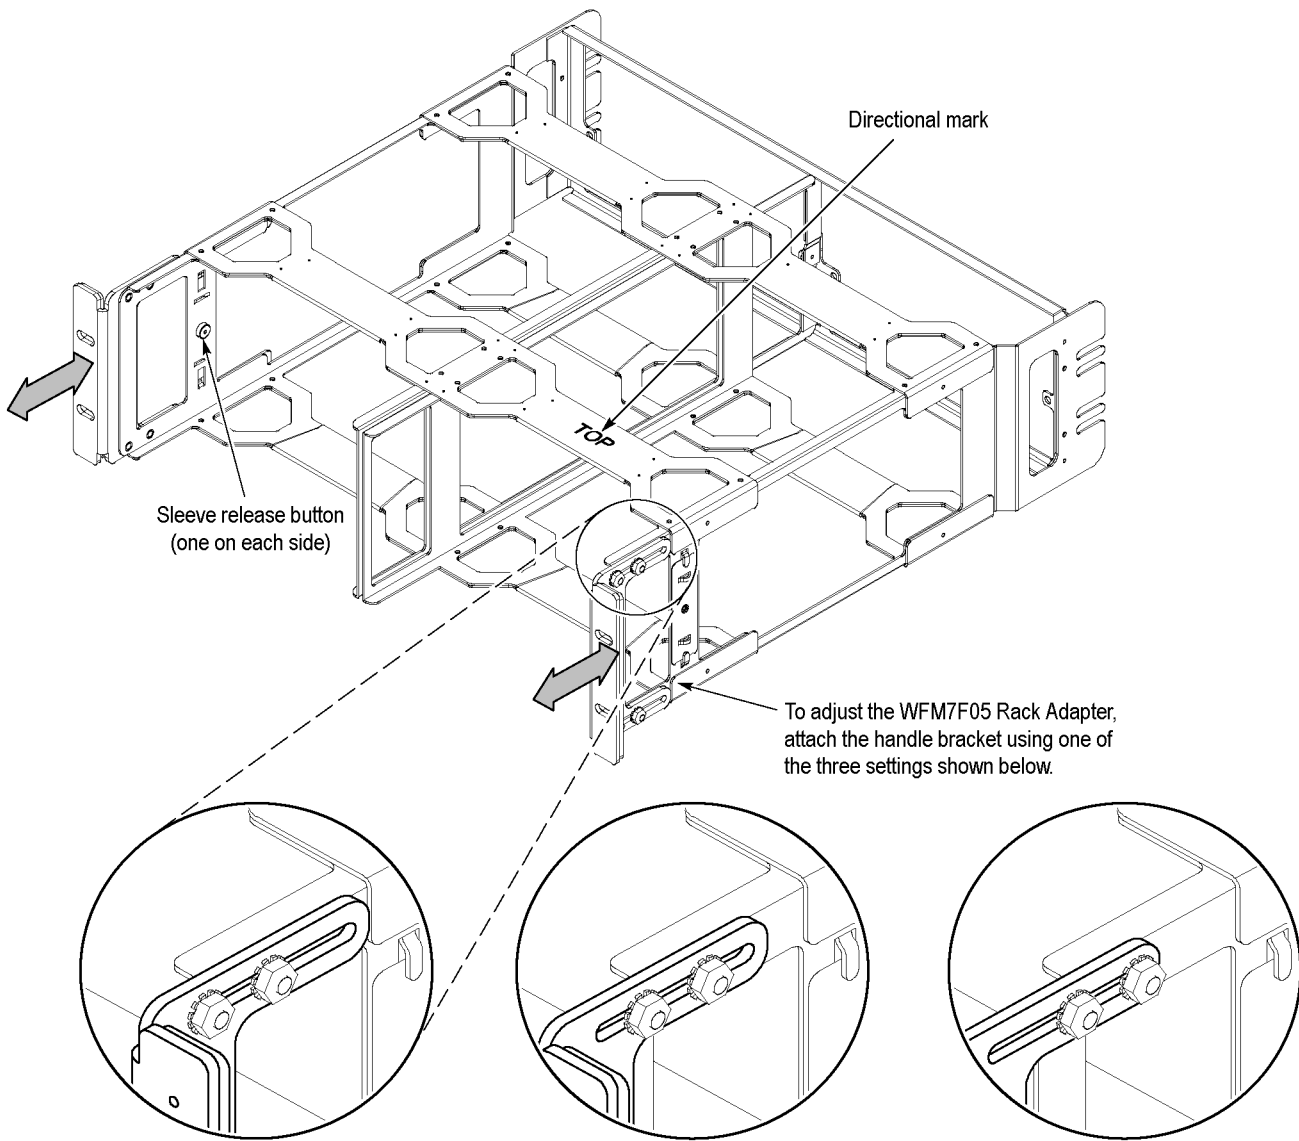

Figure 5: Adjusting the position of the handles
The rack adapter is marked with the word "TOP" to indicate which side of the adapter should face up. (See Figure 5.)
1. If the two sleeves are installed in the rack adapter, remove them as follows: locate the button on the inside front of the rack adapter and hold it in while pulling the sleeve forward and out of the adapter. (See Figure 5.)
2. If desired, you can adjust the position of the handle brackets to mount the adapter flush with other equipment in the rack. To do this, loosen the nuts that attach the handle brackets to the rack adapter, adjust the position of the handle brackets as desired, and then tighten the nuts securely. (See Figure 5.)